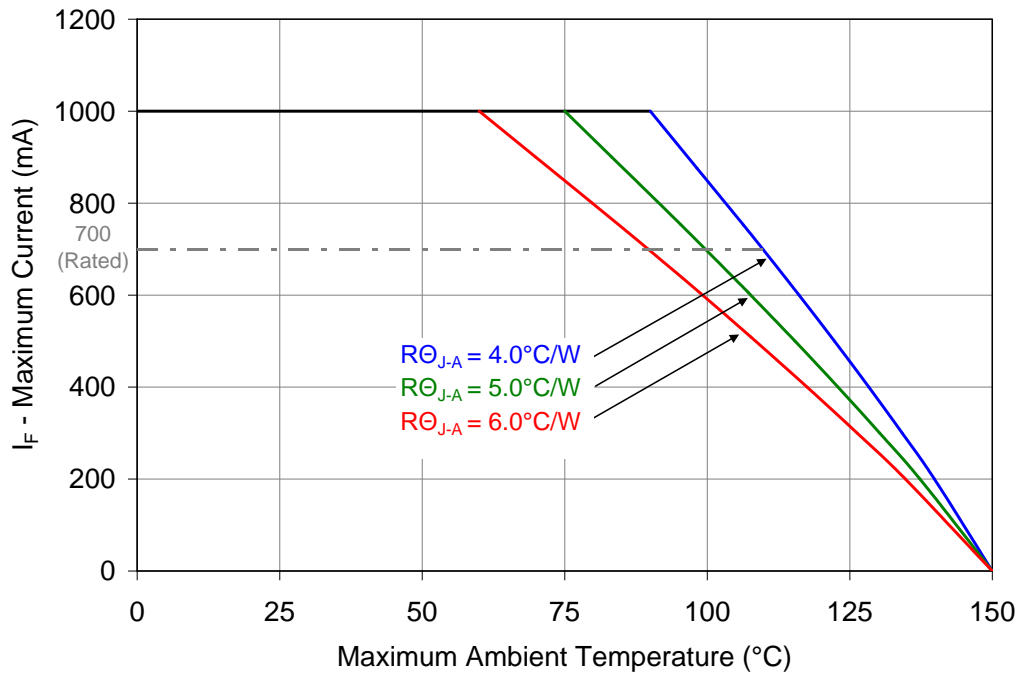

Figure 11: Maximum forward current vs. ambient temperature based on T_{J(MAX)} = 150°C.
- Maximum DC forward current (per die) is determined by the overall thermal resistance and ambient temperature. Follow the curves in Figure 11 for current derating.
Notes for Figure 11: